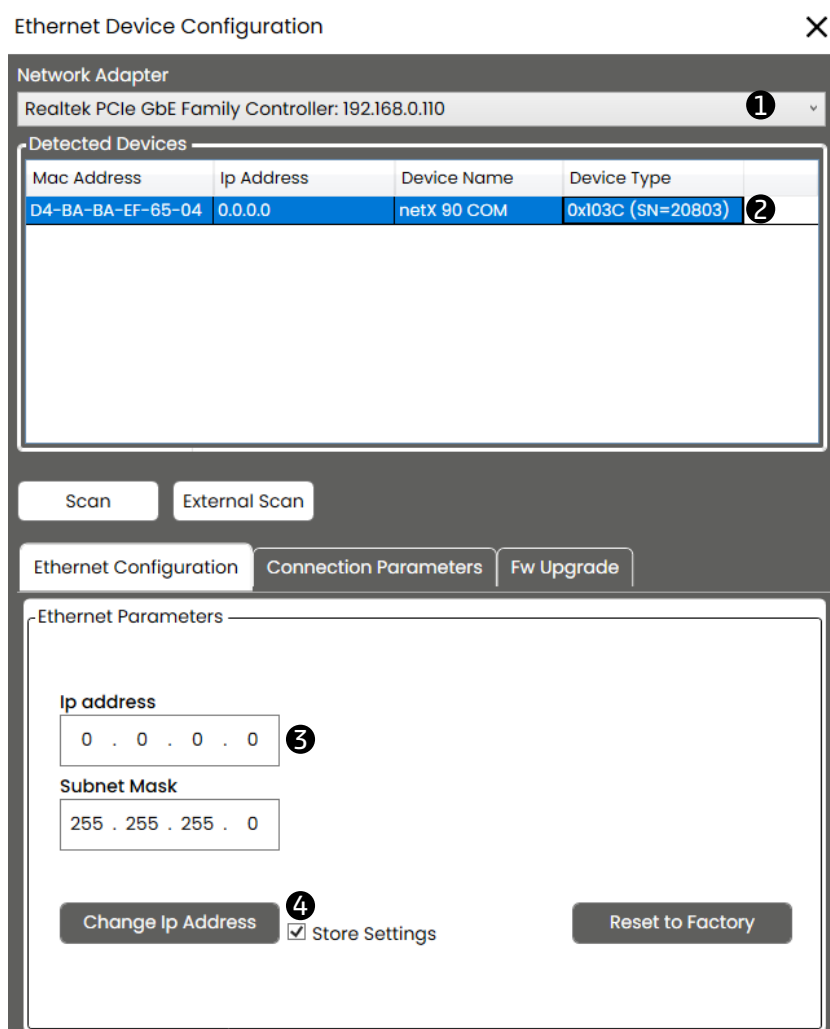

Figure 8.26: Ethernet device configuration window.
The *Ethernet device configuration* window will appear (see Figure 8.26). Choose the correct network adapter from the drop-down menu ①. After that the device connected will be visible ②, you need to select it and set the IP address ③.